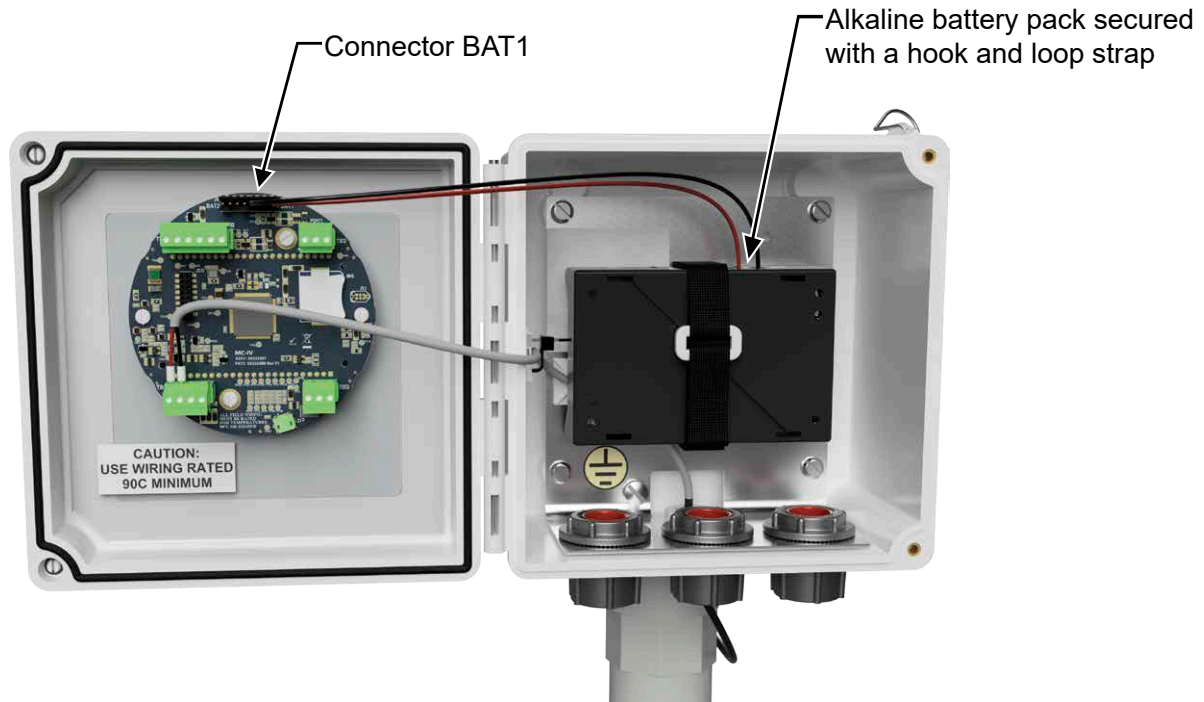

Figure 4.2—Alkaline battery replacement
1. Release the latches, and open the door of the enclosure to access the alkaline battery pack (Figure 4.2, page 81).